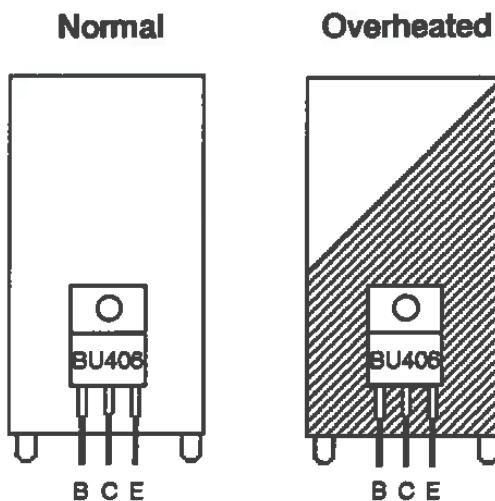

Figure 5-17 Reddish blue metal is a sure sign of overheating.
If you've got severe display distortion, wavy lines, if everything is getting darker and darker, T1 has shorted, and high current is being drawn through Q3 (INTERNATIONAL Q2). In that case, Q3 will have to be changed along with T1, even if by some miracle, Q3 still tests good. But if you only had jittering, ringing, or ozone smell (no severe distortion), Q3 will probably be OK. Whether or not you have to change Q3 depends on how soon you detect the flyback problem. As shown in Figures 5-5 and 5-7, Q3 is located at the top of the analog board, two components to the right of C1 and one component down. It's a TO-220, generic BU-406 power transistor (7 amperes, NPN silicon, 60 watts) attached to a large heat sink. If the circuit board underneath the heat sink is burned, or if the heat sink has turned reddish blue as shown in Figure 5-17, don't waste time with the following test procedure. Either sign is positive proof that the Q3 will have to be changed.
3. Turn on your multimeter and set it to the Rx100 scale. Refer to Figure 5-17 and Tables 5-5 to 5-6 to test the part.
If the heat sink metal appears reddish blue as illustrated in Figure 5-17, shine it on a wire wheel, or use some metal polish on it. You want the surface of the heat sink to be as smooth and shiny as possible. That way, the new heat sink grease won't have to work as hard. Also, you don't want to give a false impression to the next owner. If someone looks in there later and sees a reddish blue heat sink, the person's going to suspect that Q3 has failed again, when in fact, you never cleaned up from the last time.